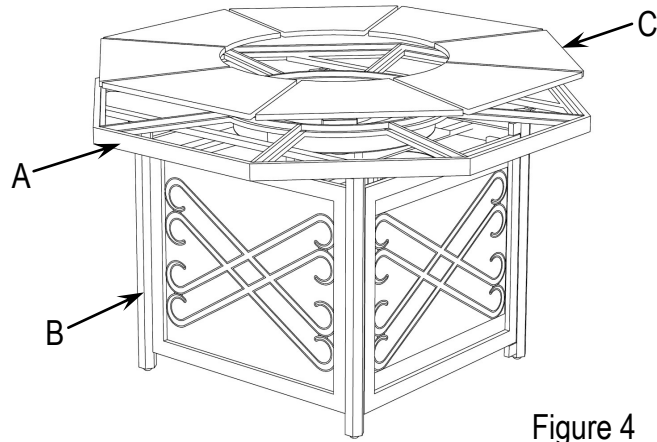

Figure 4
3. Put the Porcelain Tile (C) into Table Top Frame (A), (See Figure 4).